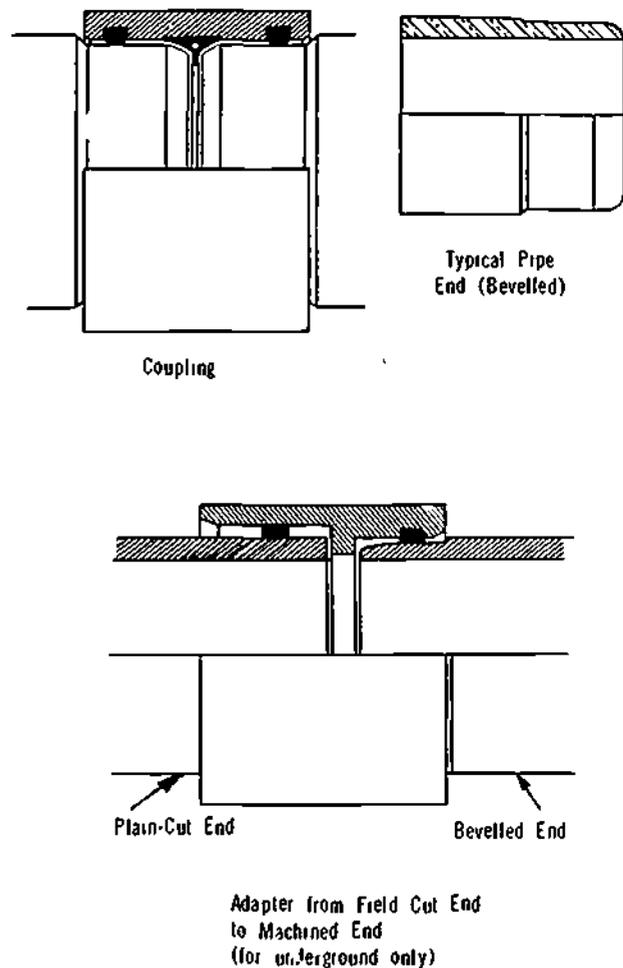

Figure 5-2. Cutaway Sections of Joints
c) Figure 5-2 shows typical cutaway sections of joints between asbestos cement pipe and fittings.